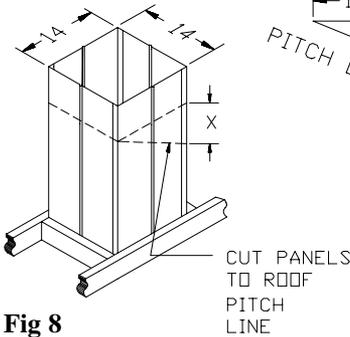

Fig 8
5. Cut Roof Opening: Cut an opening in the roof directly above the opening below, and at least 4 inches larger than the chimney’s outside diameter to provide at least a **2-inch clearance** all around the chimney. If the installation is located between rafters that are 16 inches on center, **Close Clearance Shields** (a sheet metal product fabricated by Simpson Dura-Vent), may be used to avoid structural reframing. (Figure 8). The **2-inch minimum clearance** to combustibles is not